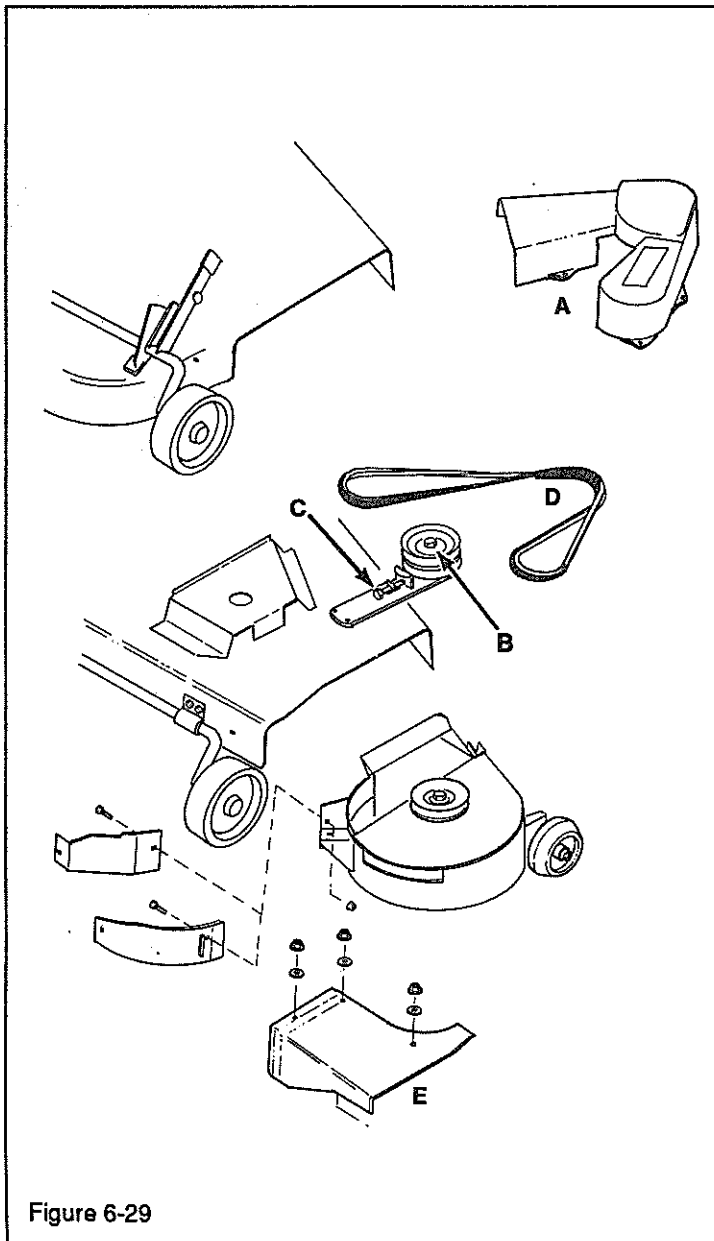
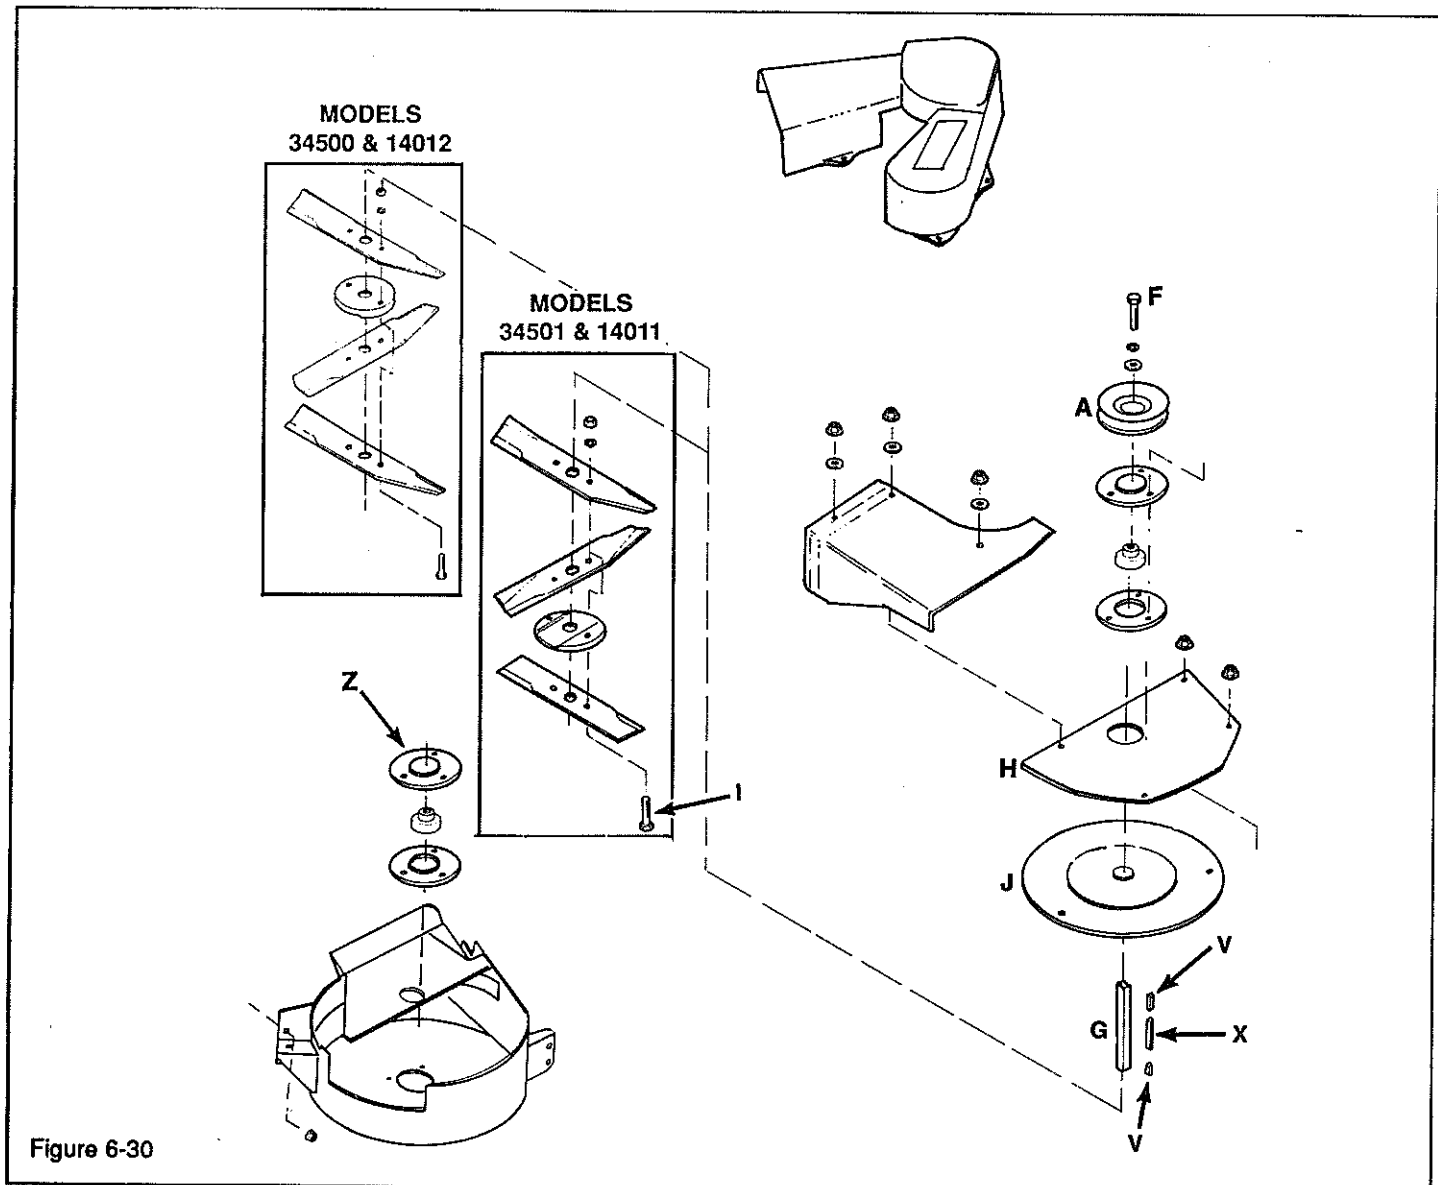
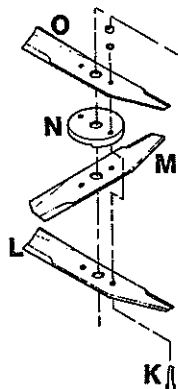

Figure 6-29
Figure 6-30
Figure 6-31
- Remove mounting screws from belt cover (A, Figure 6-29). Remove belt cover.
- Loosen cap screw (B) located on dual idlers.
- Loosen adjustment bolt (C).
- Remove attachment belt (D) from drive sheave.
- Remove discharge deflector (E).
- Remove cap screw (F, Figure 6-30), lock washer, flat washer and drive sheave from shaft (G).
- Remove housing cover (H).
- Remove capscrew (I) and washers at the bottom of the shaft. Pull shaft from attachment. Keep track of installation hardware.
- Remove fan assembly (J) from housing.
- BLADE DISASSEMBLY: To disassemble the blade assembly, Remove screws (K, Figure 6-31) or (P, Figure 6-32) and adjoining lock washers and lock nuts.
- a. **BLADE RE-ASSEMBLY:** If the blades must be reassembled, do as shown in Figure 6-31 OR Figure 6-29. Proper blade position is critical to performance and safety.
1. BLADE ASSEMBLY FOR 36" DECKS (MODELS 34500 AND 14012), FIGURE 6-31:
- Insert screws (K, Figure 6-31) upward through 1 of the blades (L).
- Place 2nd blade (M) in the notch of blade hub (N). Notch in blade hub must face down. Place blade (M) with blade hub (N) on blade (L). Insert screws (K) through blade hub.
- Place 3rd blade (O) on top of blade hub and secure with screws (K), lock washer and nut. Tighten hardware.
2 of the 3 blades are lift blades. Position lift blades with bent corners facing up. **Place flat blade on bottom of blade assembly.** See Figure 6-29.
- Loosen cap screw (B, Figure 6-29) on top of dual idlers.
- Make adjustment at adjustment bolt (C).
- Re-tighten cap screw (B).